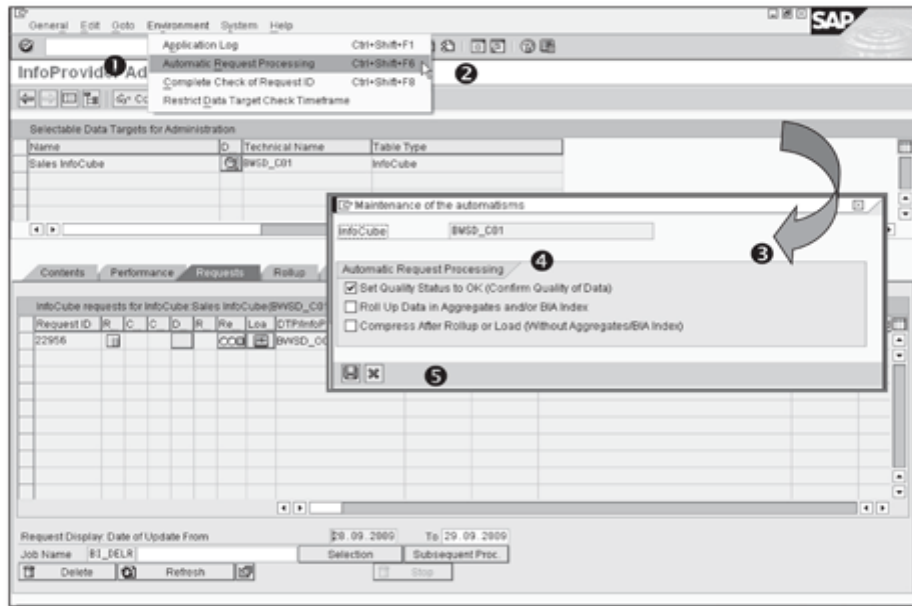

Figure 14.19 InfoCube – Automatic Request Processing
One of the main ways to improve performance in InfoCubes is to automate request processing. Choose the following menu path within the administration screen of the InfoCube: ENVIRONMENT • AUTOMATIC REQUEST PROCESSING (❶ and ❷ of Figure 14.19).